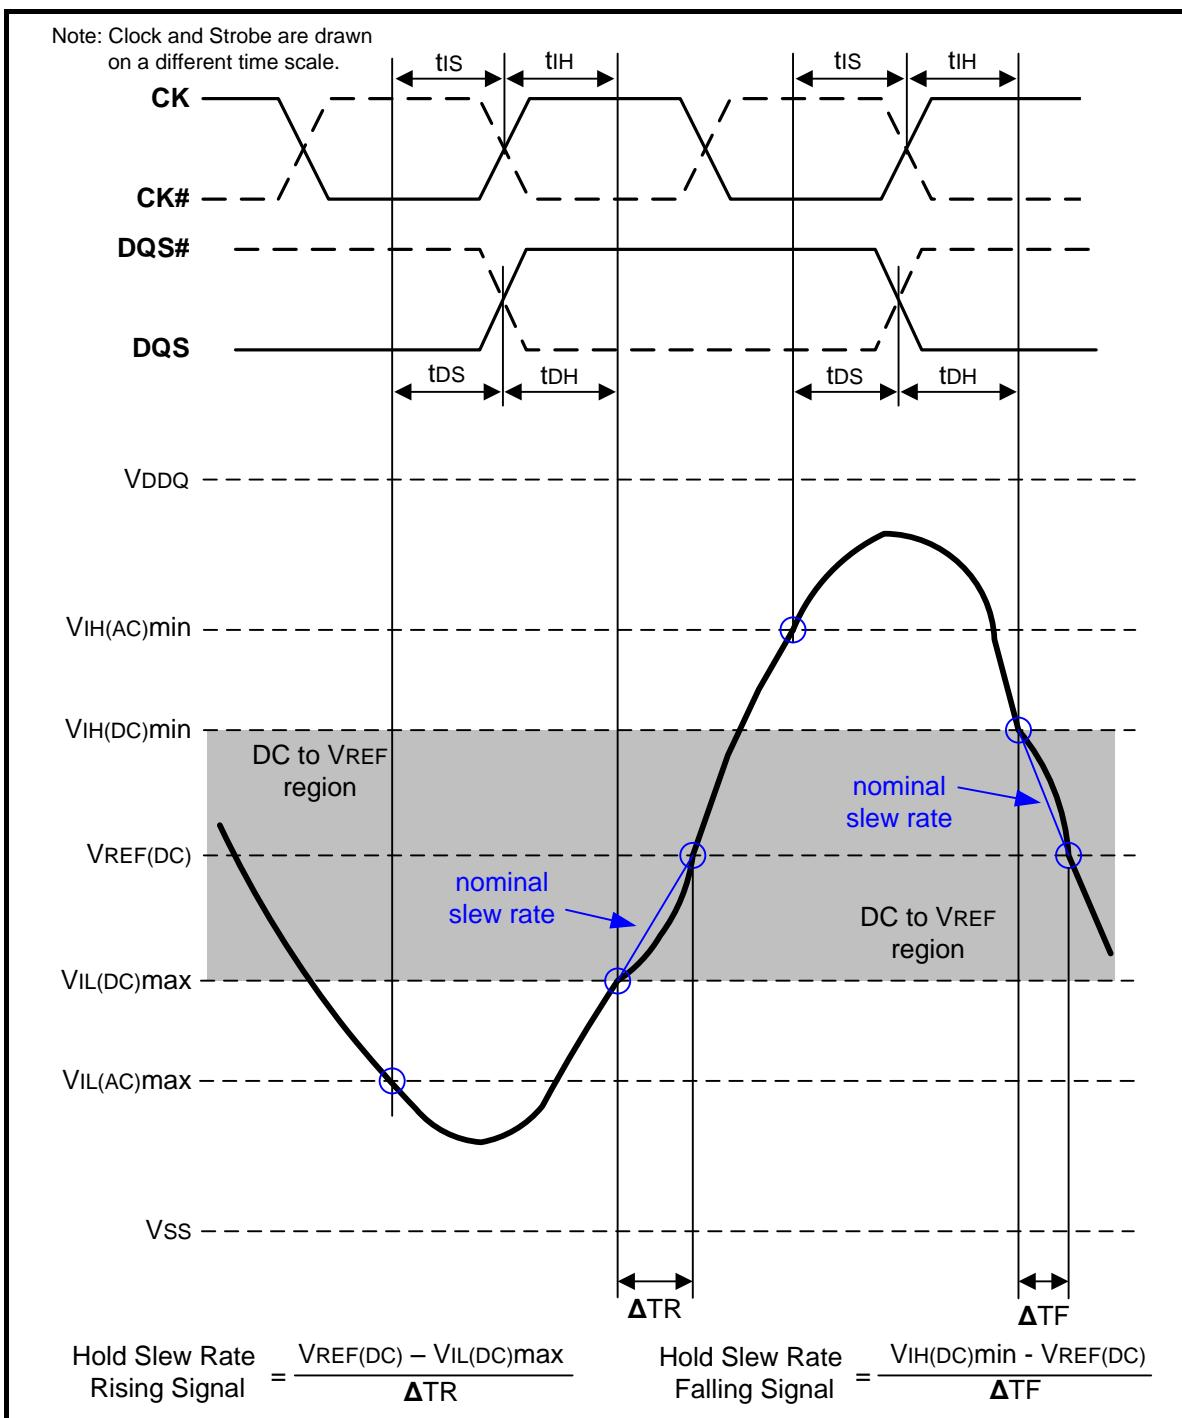
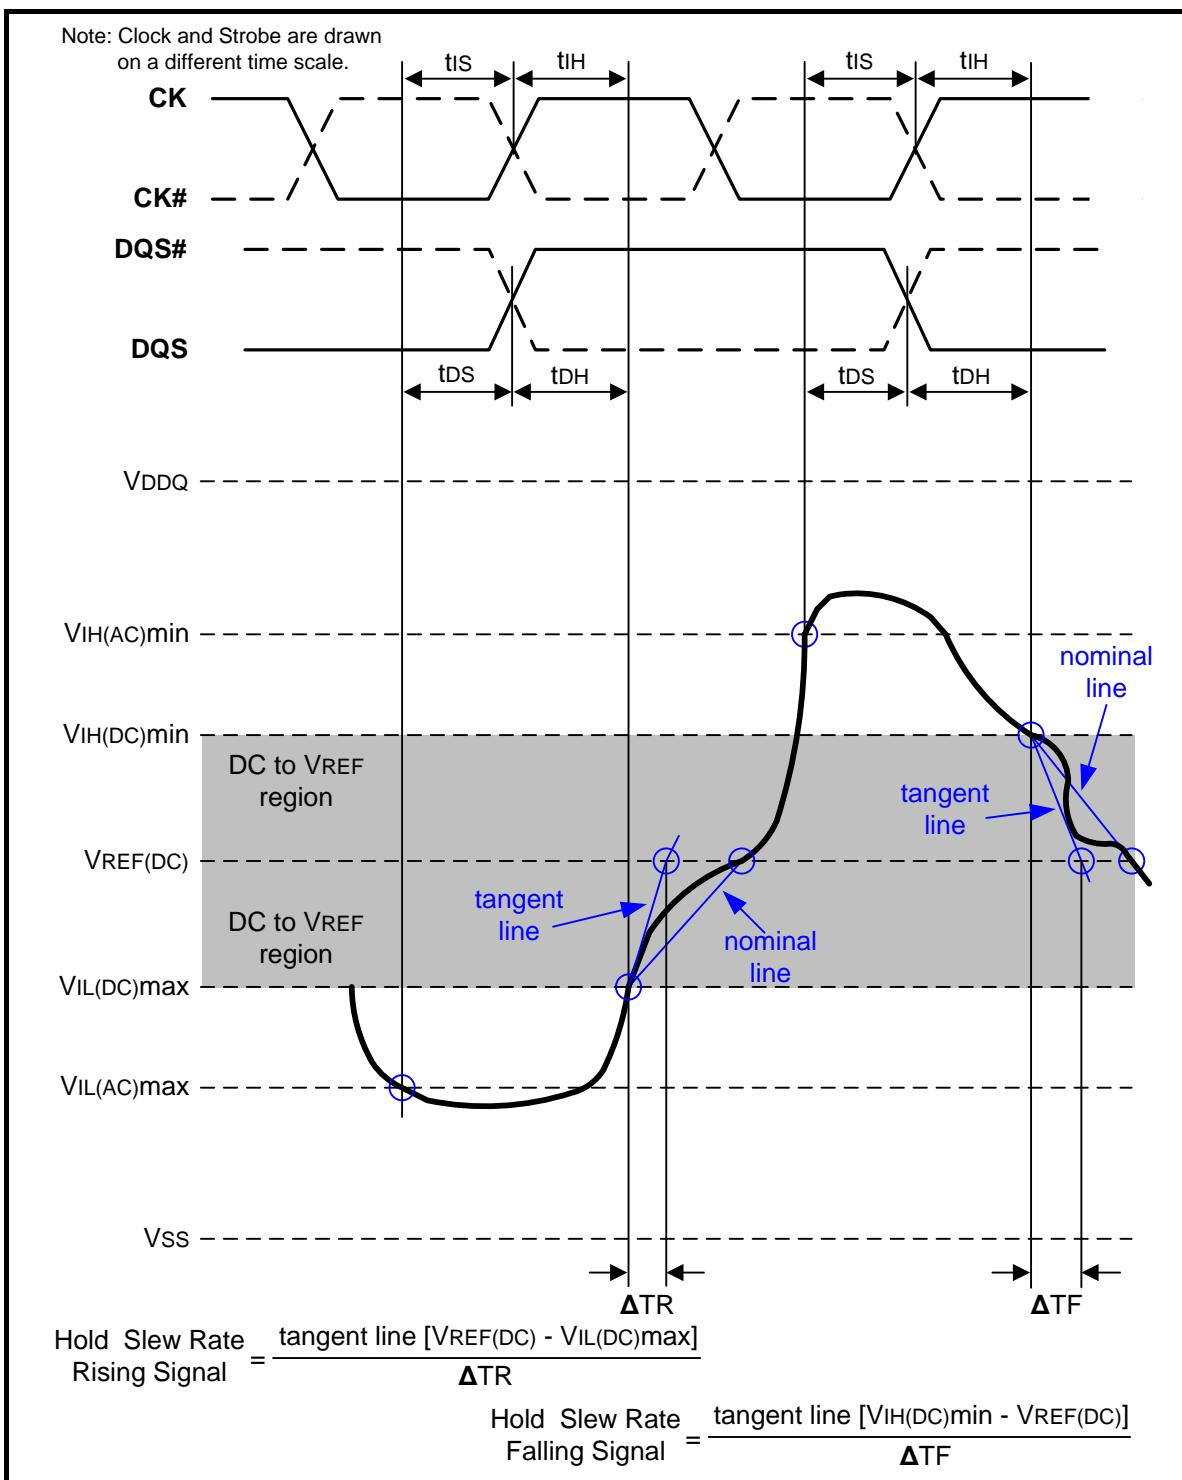

Figure 108 – Illustration of nominal slew rate for hold time tDH (for DQ with respect to strobe) and tIH (for ADD/CMD with respect to clock)
Figure 110 – Illustration of tangent line for hold time tDH (for DQ with respect to strobe) and tIH (for ADD/CMD with respect to clock)
Hold (tIH) nominal slew rate for a rising signal is defined as the slew rate between the last crossing of VIL(DC)max and the first crossing of VREF(DC). Hold (tIH) nominal slew rate for a falling signal is defined as the slew rate between the last crossing of VIH(DC)min and the first crossing of VREF(DC). If the actual signal is always later than the nominal slew rate line between shaded 'DC to VREF(DC) region', use nominal slew rate for derating value (see Figure 108). If the actual signal is earlier than the nominal slew rate line anywhere between shaded 'DC to VREF(DC) region', the slew rate of a tangent line to the actual signal from the DC level to VREF(DC) level is used for derating value (see Figure 110).
Hold (tDH) nominal slew rate for a rising signal is defined as the slew rate between the last crossing of VIL(DC)max and the first crossing of VREF(DC). Hold (tDH) nominal slew rate for a falling signal is defined as the slew rate between the last crossing of VIH(DC)min and the first crossing of VREF(DC) (see Figure 108). If the actual signal is always later than the nominal slew rate line between shaded 'DC level to VREF(DC) region', use nominal slew rate for derating value. If the actual signal is earlier than the nominal slew rate line anywhere between shaded 'DC to VREF(DC) region', the slew rate of a tangent line to the actual signal from the DC level to VREF(DC) level is used for derating value (see Figure 110).